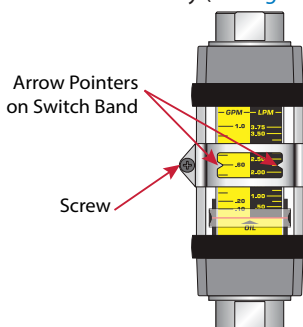

Figure 7: Reed switch adjustment (1/4 in. models)
1. Loosen the screw securing the switch assembly (see Figure 7).